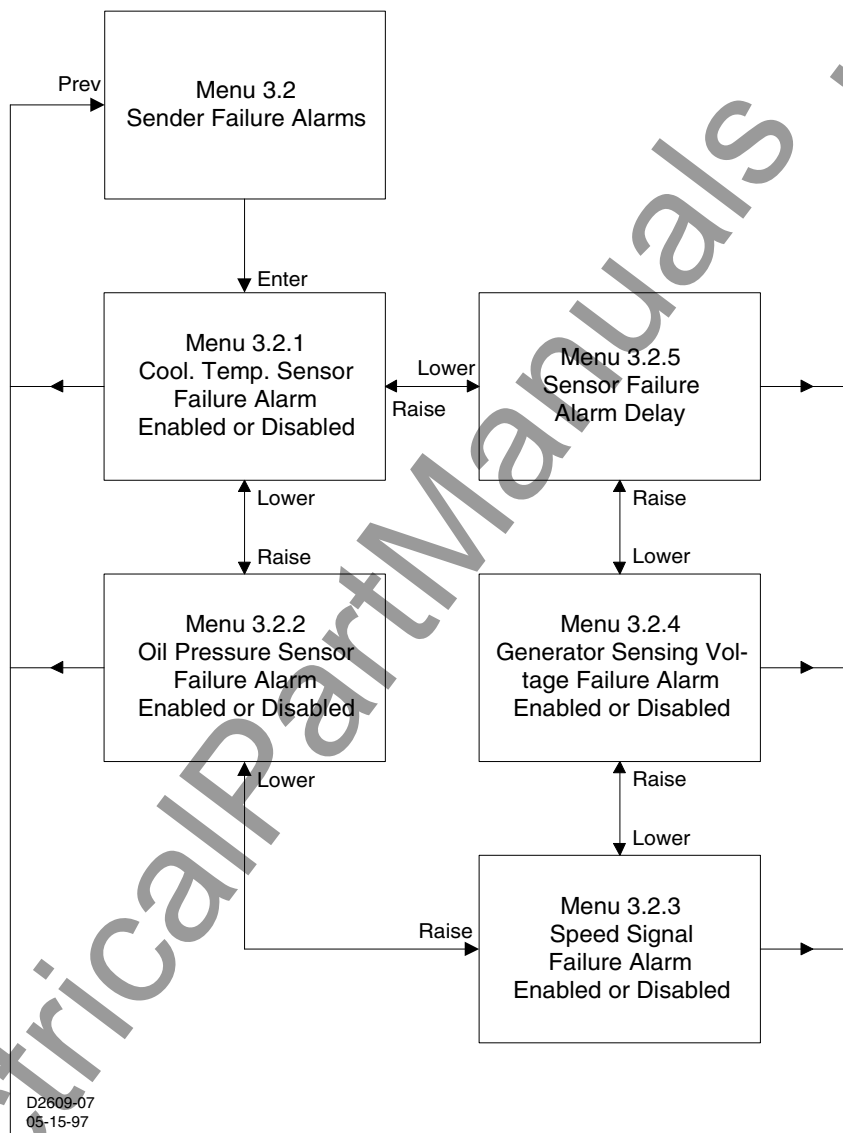

Figure 3-9. Menu 3.2
*Menu 3.2.* Menu 3.2 sender failure alarm menu. Pressing **Select/Enter** (Figure 3-9) begins menu 3.2.1